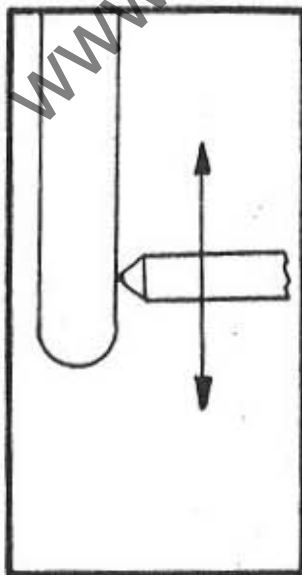

Fig. 11
Square dressing Set the dresser to the operative position but do not secure lock (39). Release lock (40), then swivel the assembly until the indicator is opposite centre zero, then secure. To dress, oscillate the dresser across the wheel. Fig. 11.
Grinding wheel makers cannot guarantee that their wheels are absolutely flat and true, so it may be necessary to side-dress some wheels when newly fitted. Set the dresser to the operative position but do not secure lock (39). Release lock (40), swivel the assembly to the extreme left-hand position and secure, (Pre-set stops govern the extreme left and right hand positions of the swivel movement). To dress, oscillate the dresser across the side of the wheel taking care not to foul the wheel flanges. Dress the opposite face of the wheel after swivelling the assembly through 180 degrees. Fig. 11.